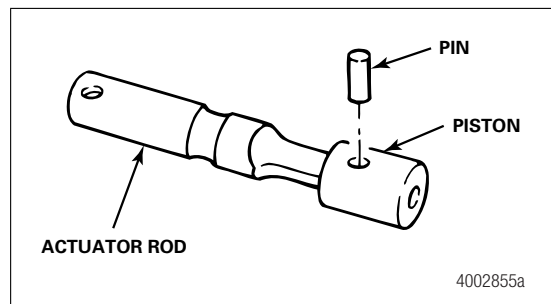

Figure 5.3
5. If you removed the pin, install it into the rod and piston. Figure 5.3.